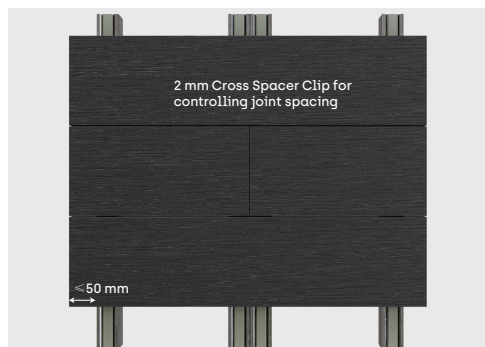
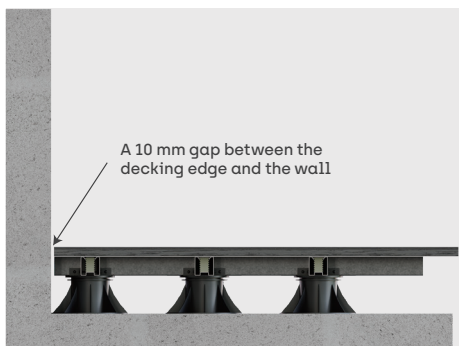

Figure 5-1
Figure 5-2
2. Double joists shall be used at decking butt joints. A 1 mm gap must be left at each joint. Before securing, any cut ends shall be repaired with Yardcom touch-up paint (matching the decking color). The maximum allowable overhang at board ends is 50 mm, as shown in Figure 5-1. A 10 mm gap is recommended between the decking board ends and adjacent walls, as shown in Figure 5-2.